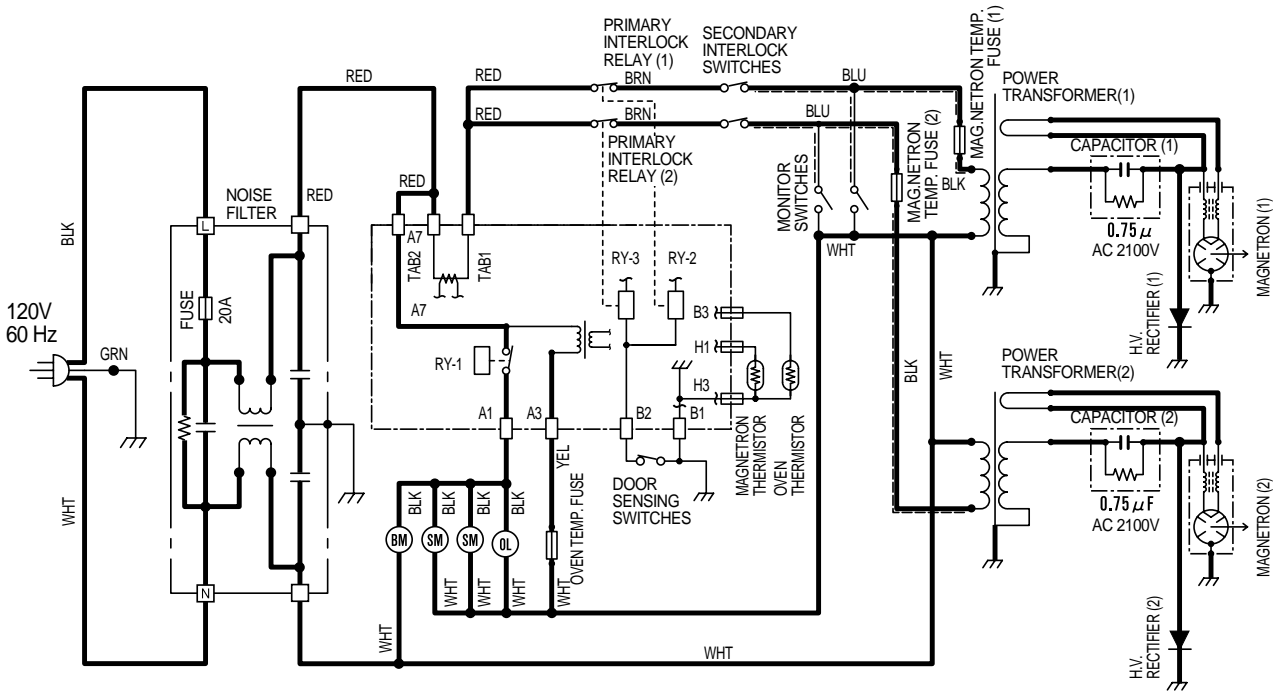

Figure O-3. Schematic-Cooking Condition (208 V Condition)
1. The contacts of relays are closed and components connected to the relays are turned on (For details, refer to Figure O-3)
6. When the door is opened during a cook cycle, monitor switches (1) & (2), door sensing switch, secondary interlock switches (1), (2) and primary interlock relays